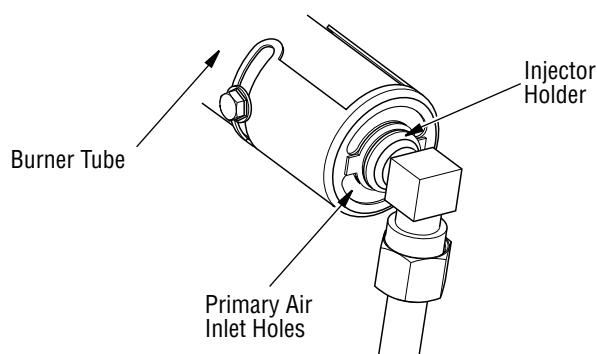

Figure 30 - Injector Holder On Outlet Burner Tube
2. Inspect burner, pilot and primary air inlet holes on injector holder for dust and dirt (see **Figure 30**, **Page 18**).